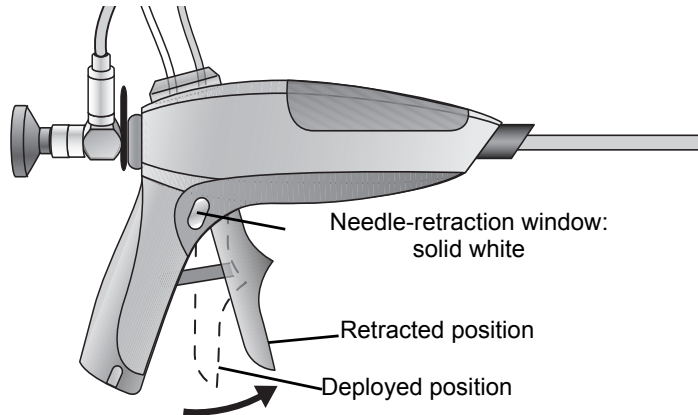
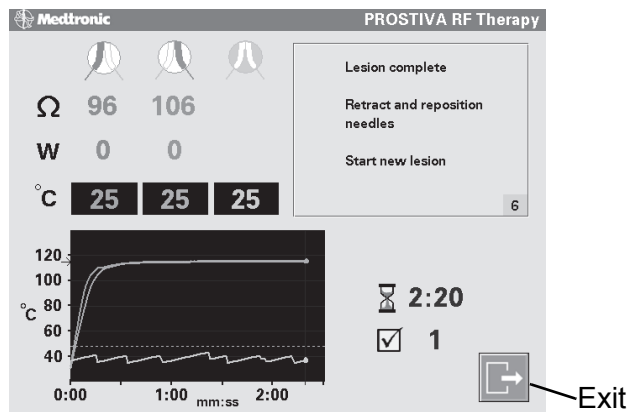
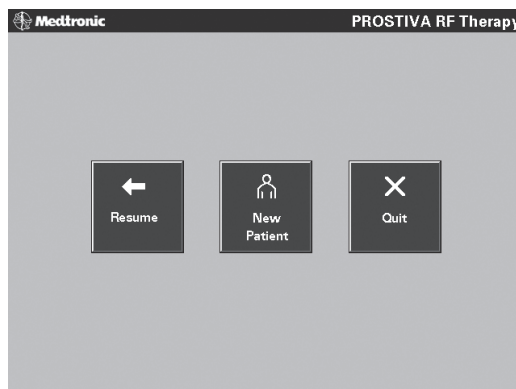

Figure 4-13. Fully Retract the Trigger Mechanism.
Figure 4-14. Confirm “Lesion Complete” on Therapy Screen Display.
Figure 4-15. Confirm the “Patient” on Screen Display
13. When the lesion treatment is complete, confirm that the “Lesion Complete” message appears on the screen display (Figure 4-14), and fully retract the hand piece trigger mechanism (Figure 4-13).
16. Press the “Exit” icon button (Figure 4-14) to access the “New Patient” window on the screen display (Figure 4-15).